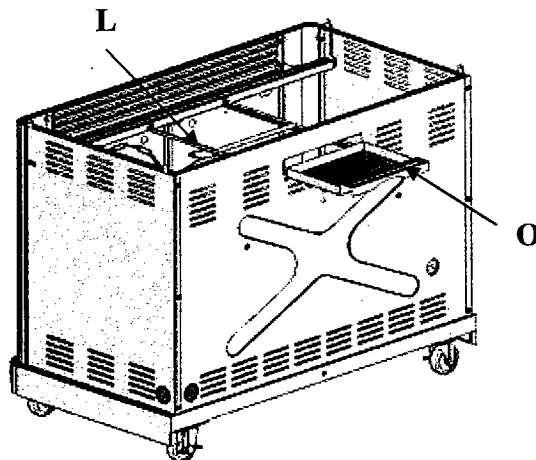

Fig. 14
Slide the drip tray (O) between the drip tray support (L) from the back of grill. (See Fig. 14).